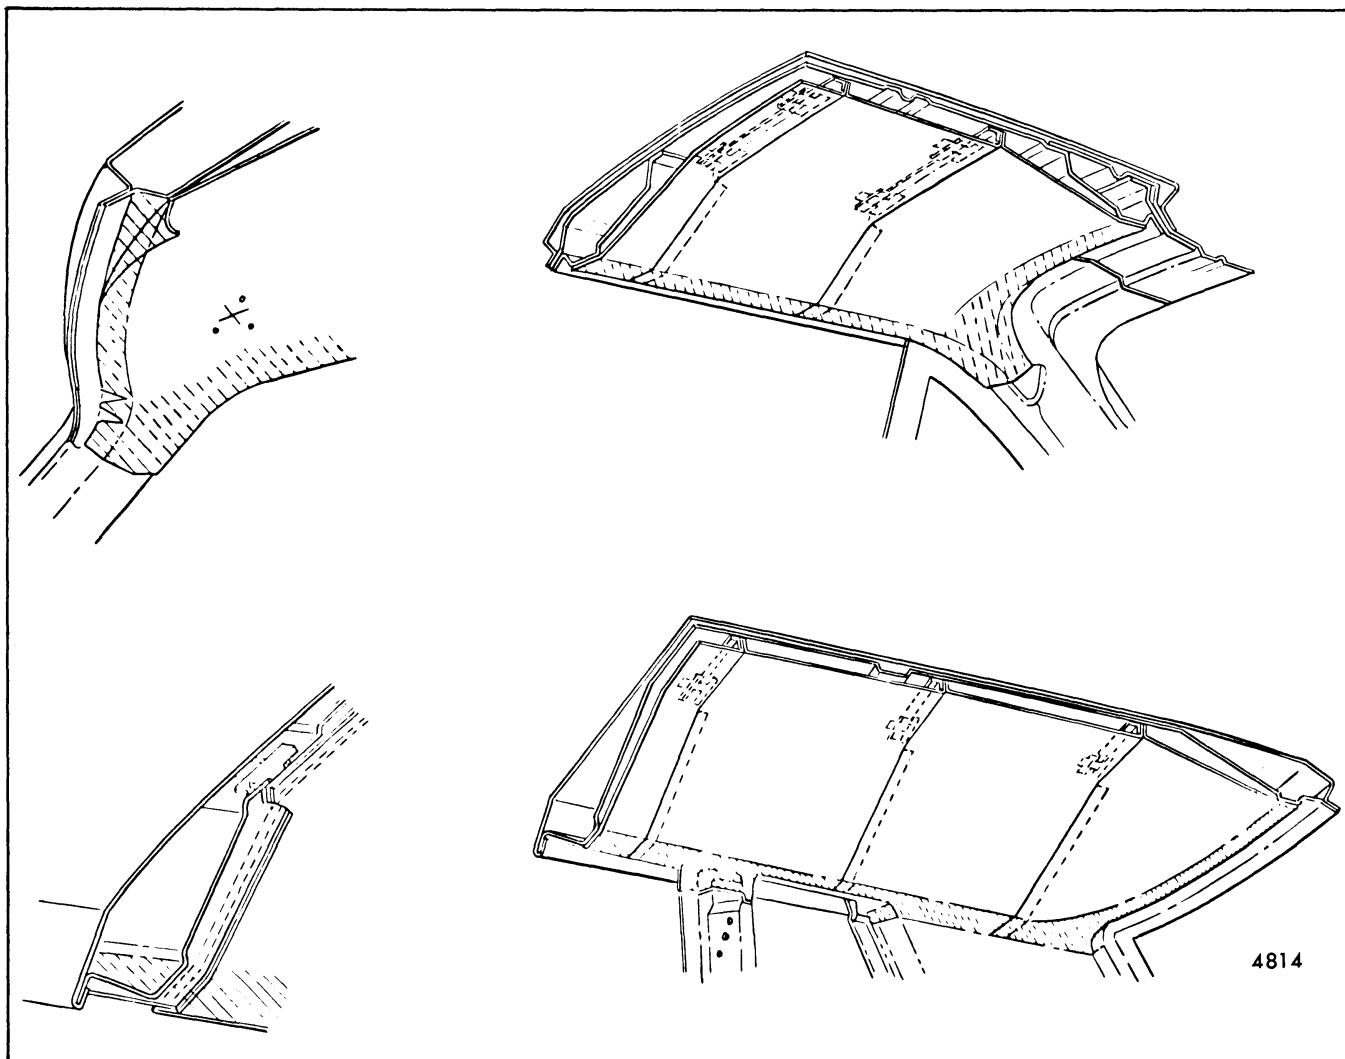

Fig. 8-2-Typical Trim Cement Application to Headlining
3. Apply an approved non-staining trim cement to headlining surface at windshield, side roof rail and back window or back body opening (see Fig. 8-2).